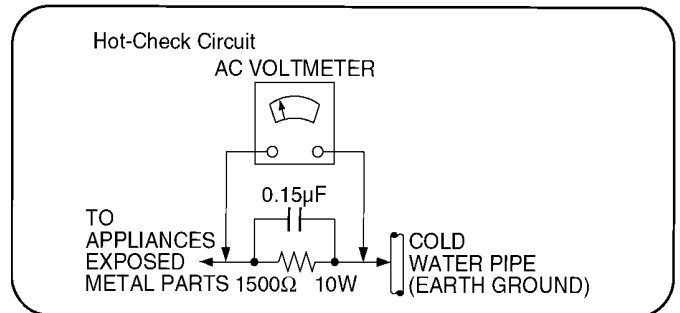

Figure 1
1.1.2. Leakage current hot check (See Figure 1)
- Connect "A" to exposed metallic part on the set. And connect "B" to a good earth ground, as shown in Figure 1.